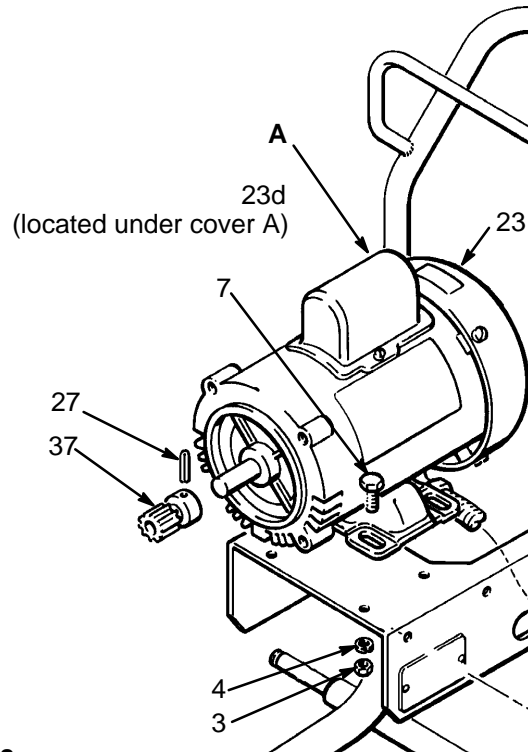

Fig 18
1. Remove the cover (A) of the capacitor. *See Fig 18.* Remove the flag connectors from the old capacitor (23d). Connect the flag connectors of the new capacitor and replace the cover.
3. Drive out the pin (27) and remove the gear (37). *See Fig 18.*